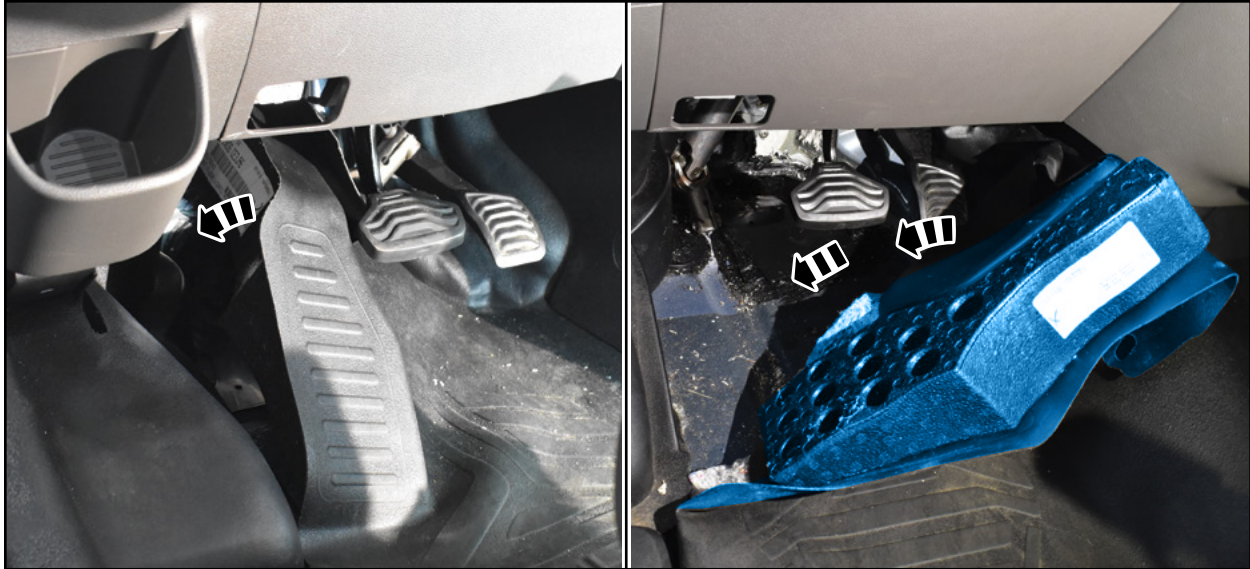

FIGURE 14
22. Position the flooring back down in the original location. See Figure 14.